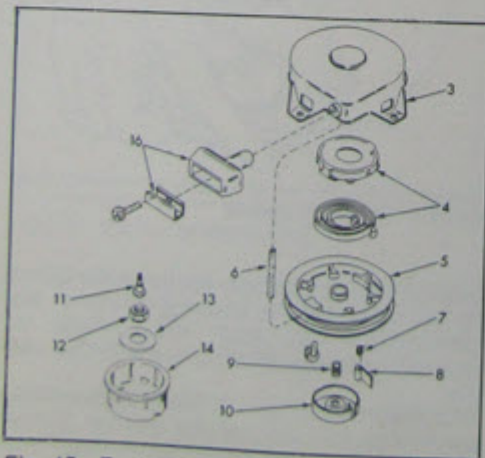

Fig. 15 Exploded view type «B»
- If, after correct tensioning of screw B, the dog does not function, disassemble the starter as follows, referring to exploded view shown in Fig. 15.